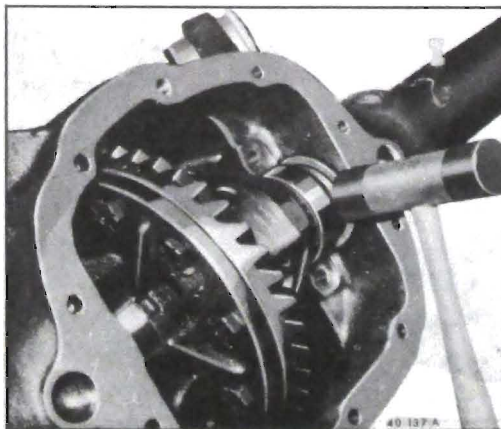

Figure 40-113 - Installing Differential Adjusting Shims
2. Place differential case and bearing assembly in position in carrier. Use service type adjusting shim totaling same thickness as original production type adjusting shims if either new or reused bearings are to be used. Slip left shims in position at left bearing with steel shim next to bearing, then place .140" shim for right side in position and drive steel shim carefully into position between bearing and cast shim using a soft hammer. See Figure 40-113.